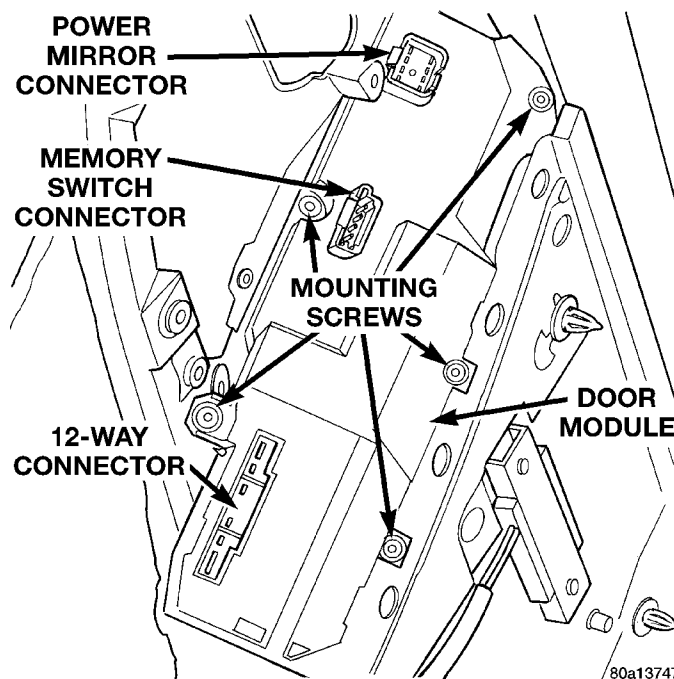

Fig. 3 Door Module Remove/Install
- (8) Pull the front door trim panel away from the inner door panel far enough to access and unplug the wire harness connectors from the door module and, if the vehicle is so equipped, from the front door courtesy lamp.
- (9) Remove the five screws that secure the door module to the back of the front door trim panel (Fig. 3).